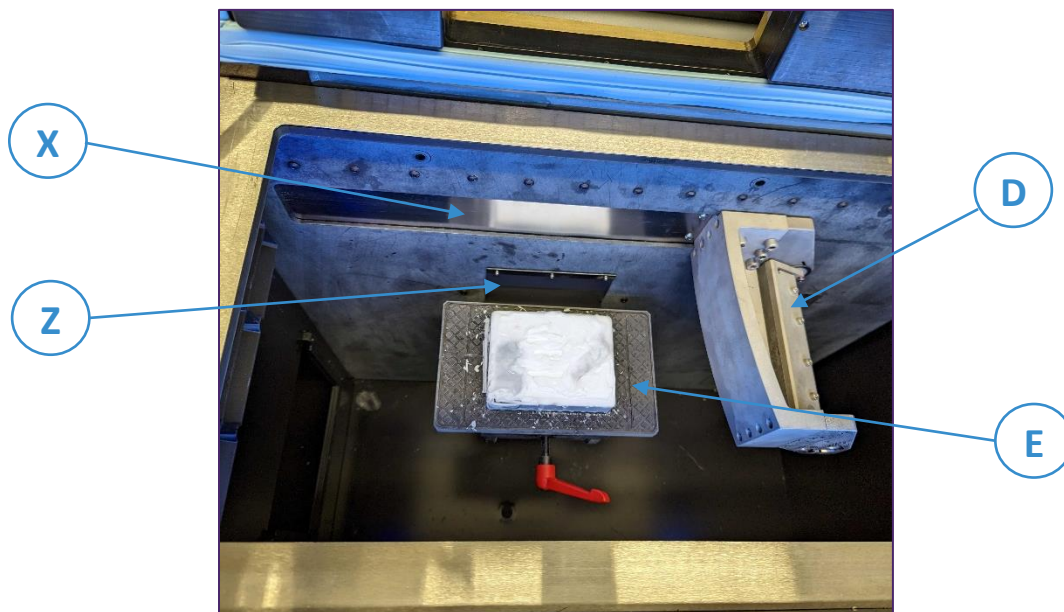

Figure 9: Motion Systems
There are two motion systems inside the cold chamber, as shown in Figure 9. The X rail (X) moves the blade holder (D) in a horizontal path parallel to the front of the instrument. The Z rail (Z) holds the specimen plate on a stage (E) with a clamping mechanism and moves it along a vertical axis.